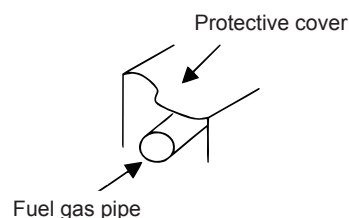

Fig. 12-2 Fuel pipe protection example
- * In regions with heavy snowfall, take precautions to protect the fuel gas pipe path from snow damage (Fig. 12-2).